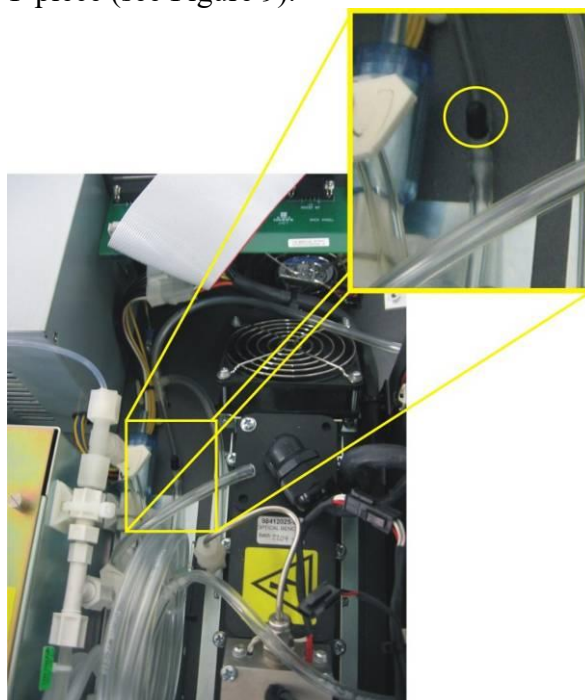

Figure 9 Blocking exhaust T-piece
3. Remove the tubing connecting the dryer to the exhaust line and block the exhaust line T-piece (see Figure 9).